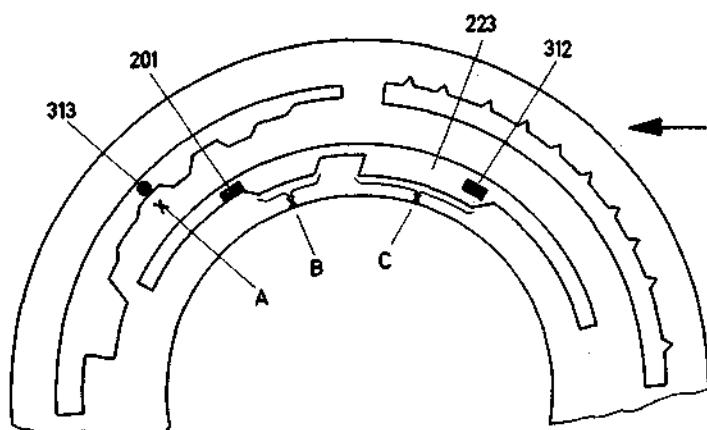

Fig. 35a
1. In the Section 3a (Escapement Mechanism), the fact has already been mentioned that two selectively operable escapement levers are associated with the star wheel. Therefore, the shutter speed setting ring of the new shutter model has to cooperate with these two levers. For this purpose the speed setting ring as shown in Figs. 35a and 35b on Sheet 83 has been provided with a cam slot 223.
The shutter speed setting ring used in the case of Table 1 is shown in Fig. 35a; the escapement 00381-G20 was used in connection with this setting ring.
The shutter speed setting rings shown in Figs. 35a and 35b differ at the points A, B and C.
When ordering setting rings, please state which design (Fig. 35a or Fig. 35b) is involved.